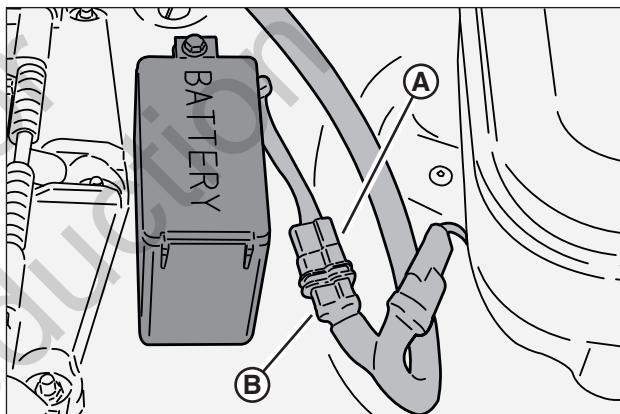

Figure 14: Charging the battery
1. Connect the battery charger to the battery connector (**A**, **Figure 14**), and plug the charger into a 120-volt outlet for 12-24 hours. (Longer periods will not damage the battery.)